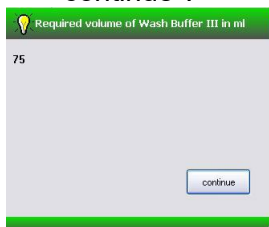

Figure 15. Requested volume of Wash Buffer III- dialog window
25. Check for the necessary volume of Wash Buffer III (Fig. 15).